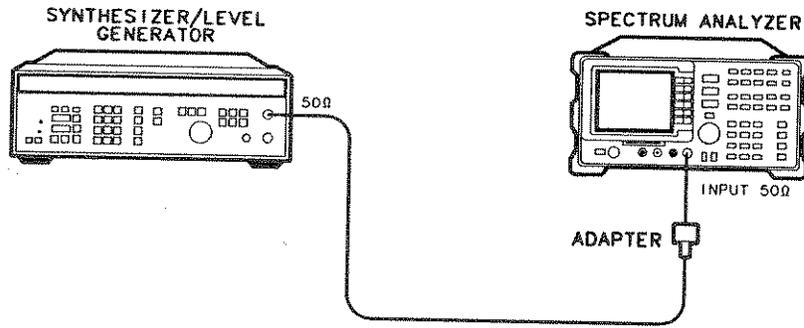

Figure 3-17. Frequency Response Test Setup (<50 MHz)
17. Using a cable, connect the HP 3335A directly to the INPUT 50Ω. Refer to Figure 3-17.